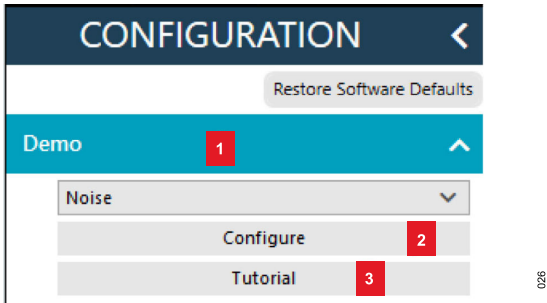

Figure 26. Configuration (Expanded View)
- 2. To see the settings required for the demo, click **Tutorial** before writing to the **AD4195-4** (Label 3, Figure 26). Click **Configure** (Label 2, Figure 26) to write these settings to the board.